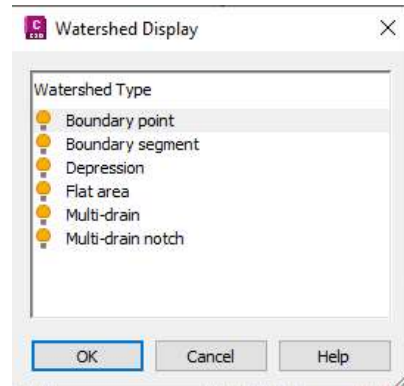

Figure 4-41 The Flat area and Multi-drain notch watershed options
6. Click on the bulb icons next to the **Flat area** and **Multi-drain notch** watershed types to turn off the display of these watersheds in the drawing, refer to Figure 4-41.